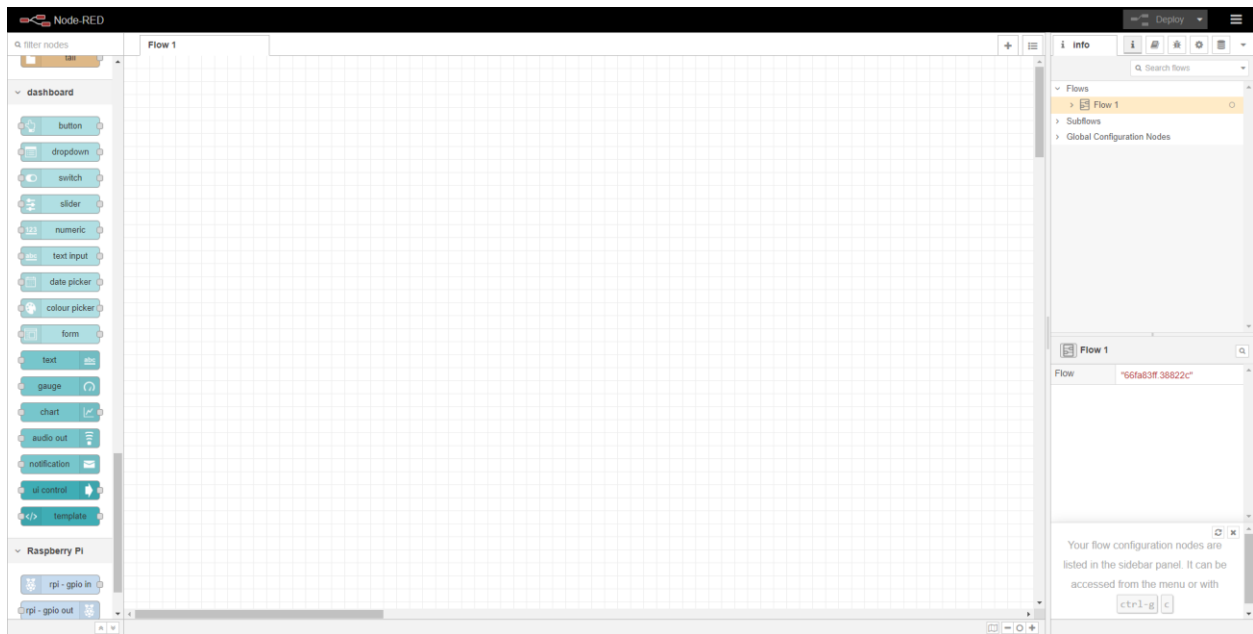

Figure 15
1. In the node palette on the left side, scroll down to the bottom to make sure that the section of nodes called 'dashboard' is installed like in Figure 15 below.